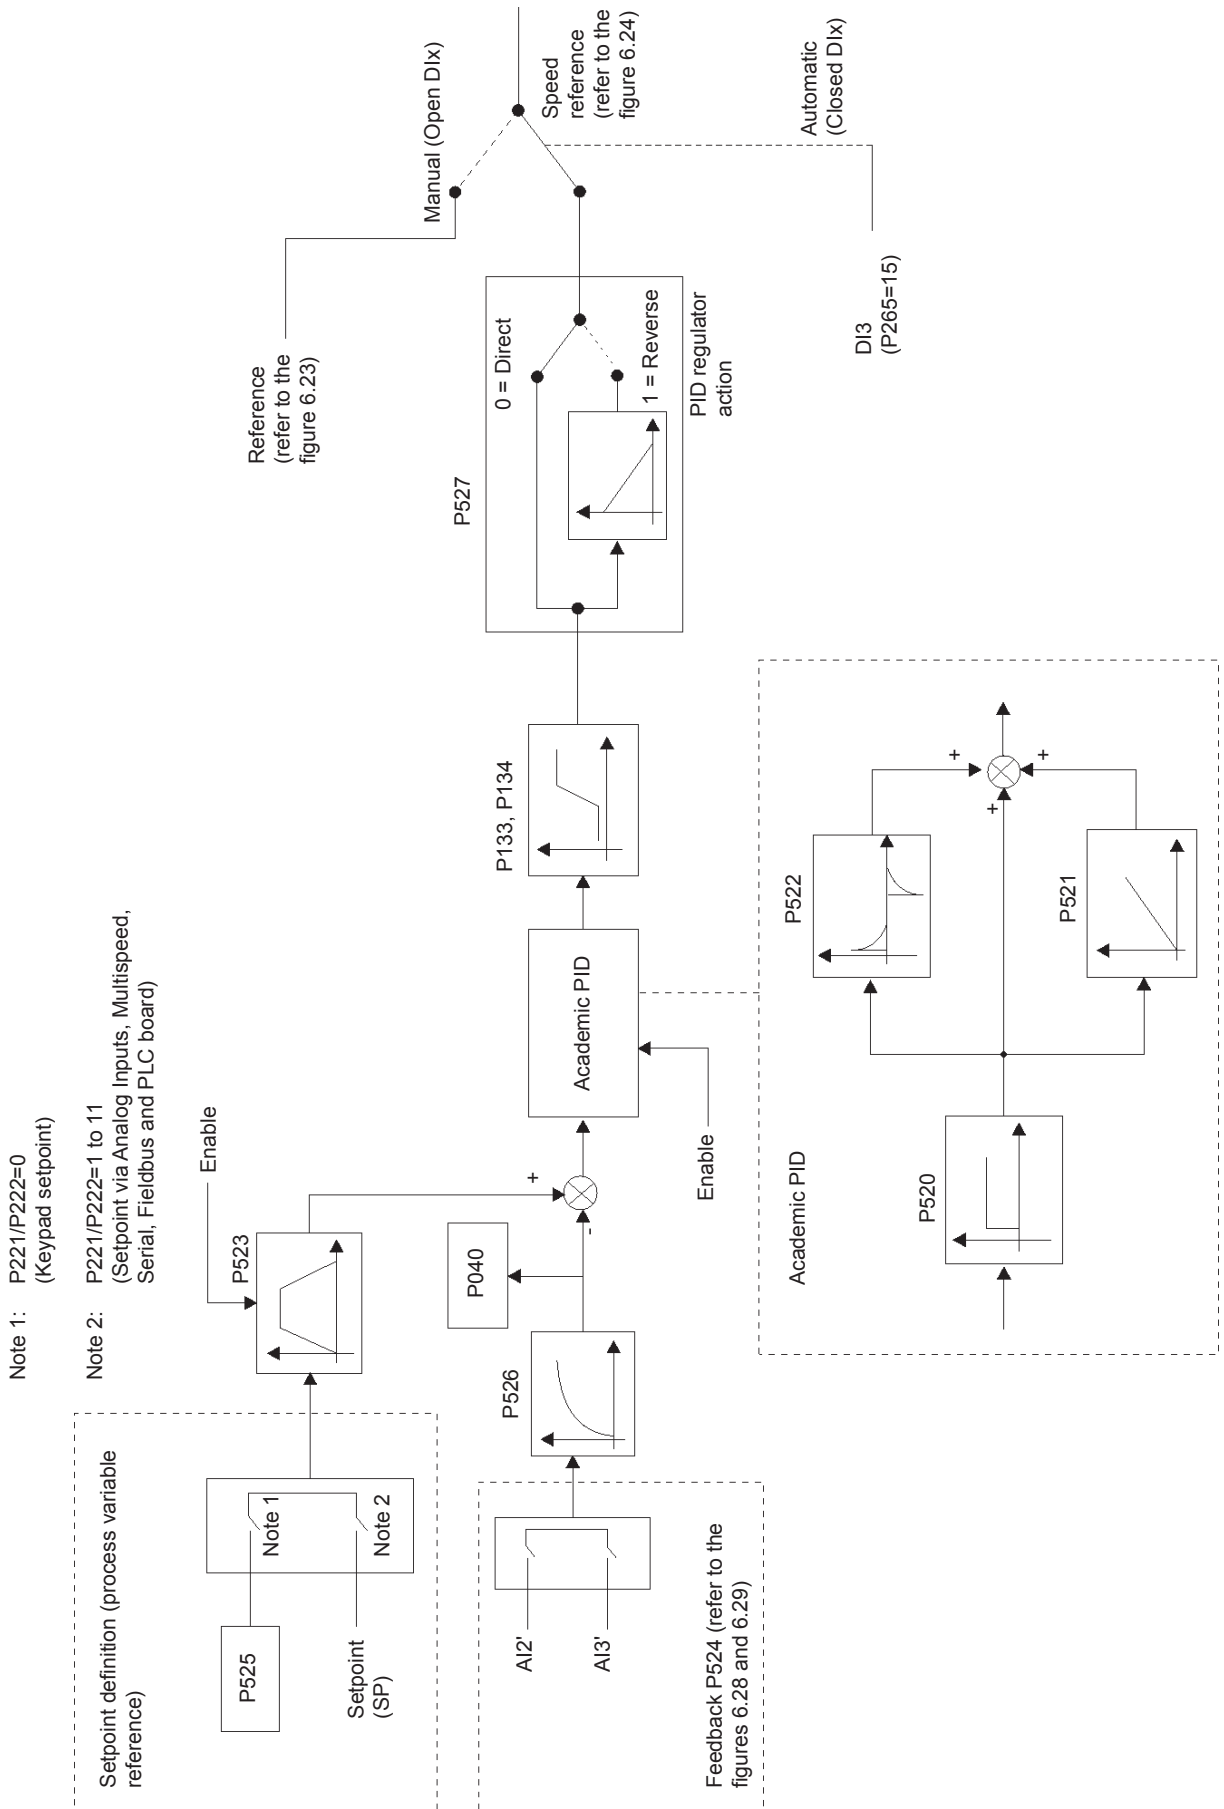

Figure 6.42 - Academic PID Regulator block diagram
- The figure 6.42 presents the Academic PID Regulator block diagram.
| <p>P525Keypad PIDSetpoint</p> <p> This parameter is only visible on the display if P203 = 1 or 3</p>                 | <p>0.0 to 100.0[ 0.0 ]0.1 %</p> | <p><input checked="" type="checkbox"/> It provides the PID regulator setpoint that is adjusted via the  and  keys provided that P221 = 0 (Local) or P222 = 0 (Remote), and in automatic mode. If the PID is in manual mode, then the speed reference is given by P121.</p> <p><input checked="" type="checkbox"/> When the PID regulator is operating in automatic mode, the setpoint is the one defined as speed reference via P221 (Local) or P222 (Remote). The majority of PID applications either use setpoint via analog input AI1 (P221 = 1 in Local, or P222 = 1 in Remote), or via  and  keys (P221 = 0 in Local, or P222 = 0 in Remote), refer to the figure 6.42.</p>  |      |     |   |                             |   |                    |